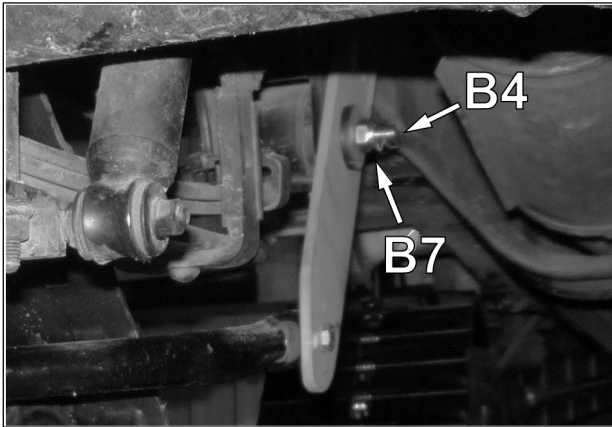

Fig. 6
7. Re-attach leaf spring to its support and anchor bracket using new M12 assembly bolt (**B4**). Correctly tighten bolt in place using provided M12 locknut (**B7**). Torque to 90 Nm [66 lb-ft]. See Fig. 6